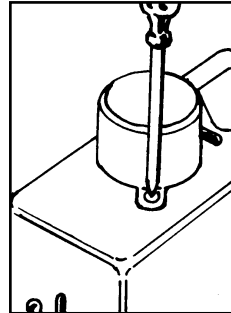

Figure 5
3. If control is a "KC" model (Knob Cover), remove knob cover as in Figure 5.